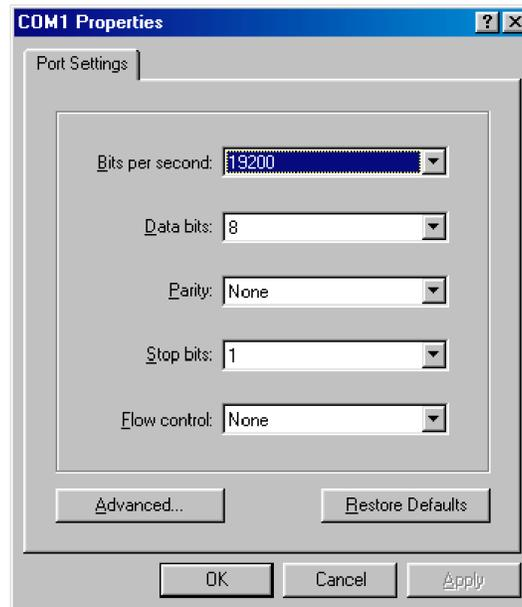

Figure 13. COM properties
- Configure the COM port settings as shown in figure 13.